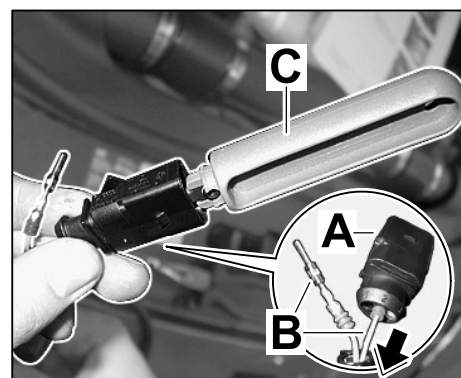

Figure 14
- 4.2 Press out socket contacts ⇒ Figure 14
-B- using the press-out tool ⇒ Figure 14
-C- to remove them from the exhaust flap valve connector ⇒ Figure 14 **-A-**.